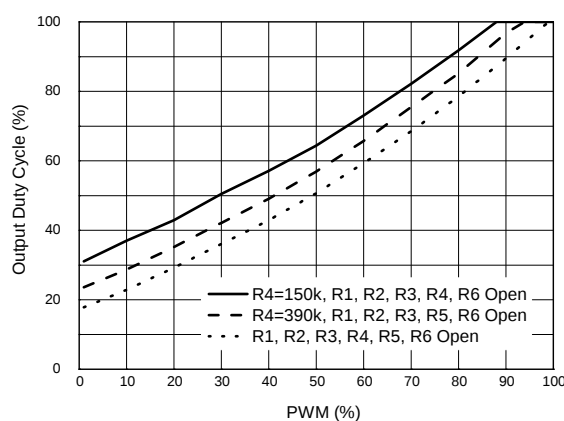

Figure 17
3. Adding R4 can increase maximum output PWM duty (see Figure 17).